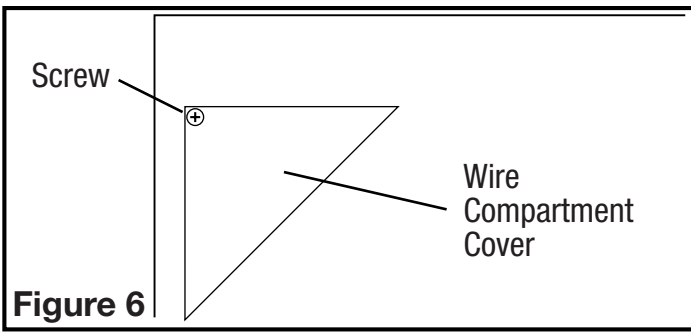

Figure 6
- 1a. **External Wire Compartment:** Remove the wire compartment cover screw and place cover in a secure place (Figure 6).